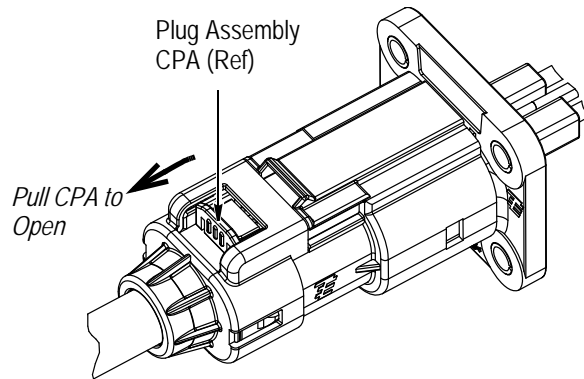

Figure 14
2. Open the plug assembly CPA (if present) by pulling it away from the header assembly. See Figure 14.